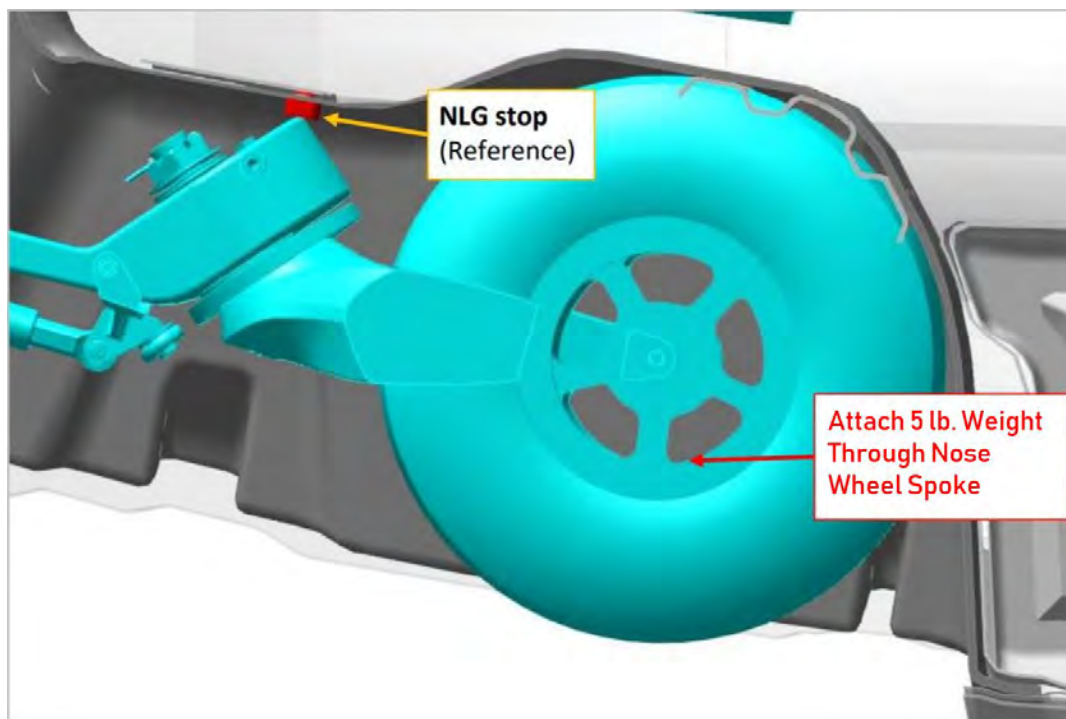

FIGURE 14-33
3. Attach 5lb weight (ITL012297) to NLG wheel. See Figure 14-33.